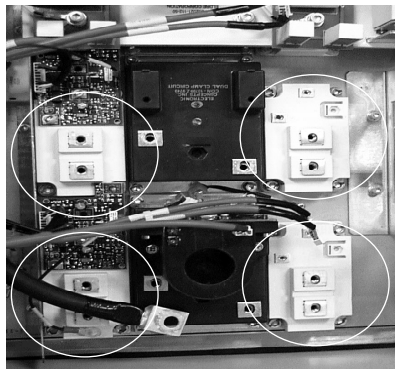

Figure 4.2.13: Inverter IGBT Modules
2. Place the new IGBT module on the heatsink following the orientation illustrated in Figure 4.2.13 and secure it with four screws. Using the